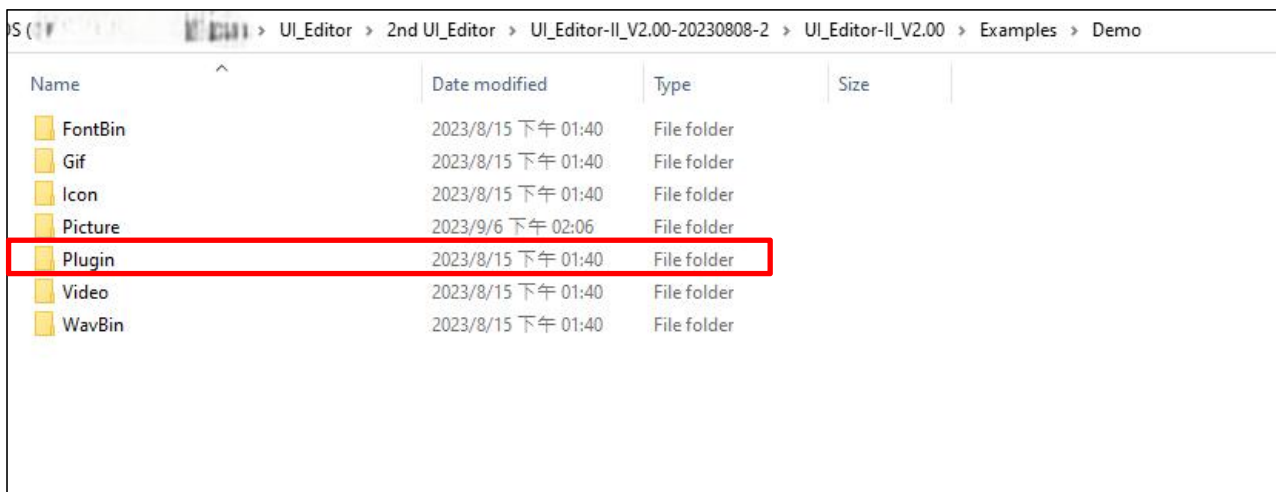

Figure 13-1: Delete the Files in Plugin Folder
- (1) Copy all the folders of the existing project, and paste them to another folder.
- (2) Delete all the existed files in [Plugin] folder, as shown in Figure 13-1
- (3) Create a new project with the copied material